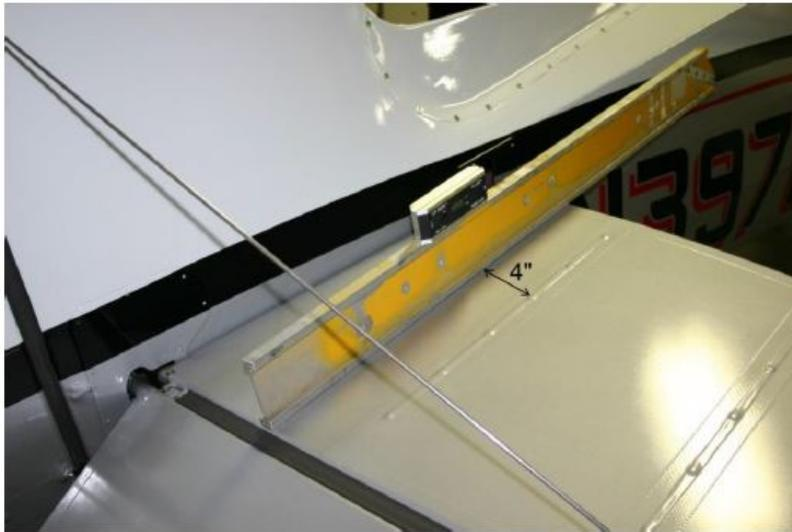

Figure 2 – Horizontal Stabilizer Trim Rigging
(3) INSTALLATION (LEFT)
(4) HORIZONTAL STABILIZER TRIM
- (a) Use a straight edge long enough to rest on the forward and aft stabilizer spars, approximately 4" inboard from the first rib, parallel to the first rib (see Figure 2).